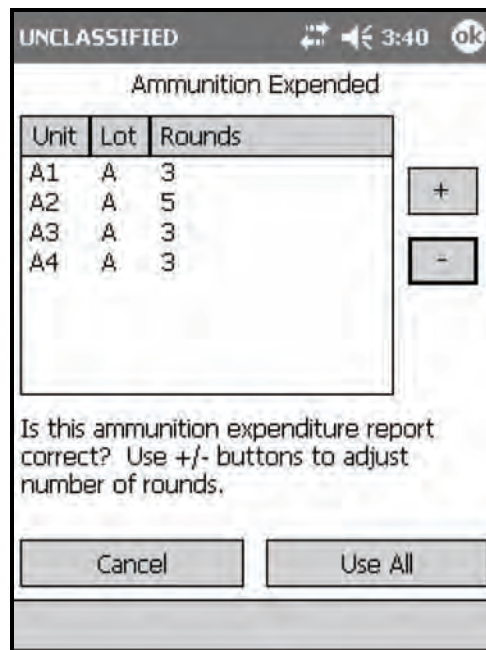

Figure 18-9. Ammunition Expended screen.
(37) Select Use All.
(38) The Ammunition Expended screen (Figure 18-9) displays. The Ammunition Expended screen enables the operator to view or edit the number of rounds that have been expended by each gun used in the active mission.